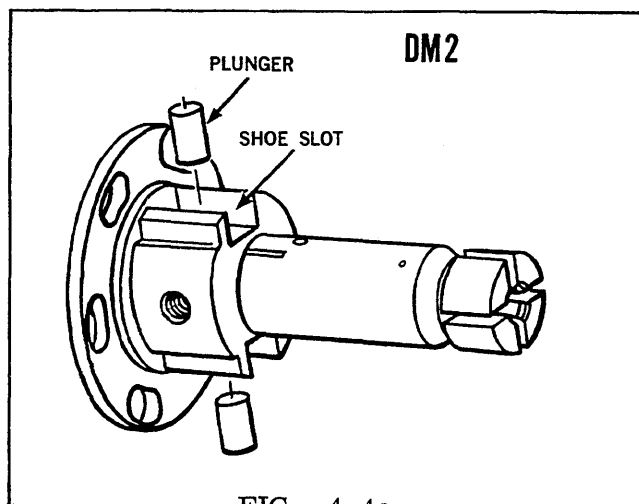

FIG. 4.4a
5. Plungers - While holding the rotor under clean oil, insert the plungers into their bore. Insert only the longer plungers if the DM4 pump is being examined. With thumb and forefinger over the shoe slots, tilt from side to side several times to determine complete freedom of movement. Interchanging or reversing their initial positions may be necessary, as these are matched parts. Repeat with the short set without removing first set on the DM4 pump. If the plungers are sticking, but not visibly damaged, clean both plungers and bore with a soft brush and a solvent such as lacquer thinner or acetone. (See warning above) (Do not force plungers into their bore and do not handle rotor shank) (Figs. 4.4a and 4.4b).